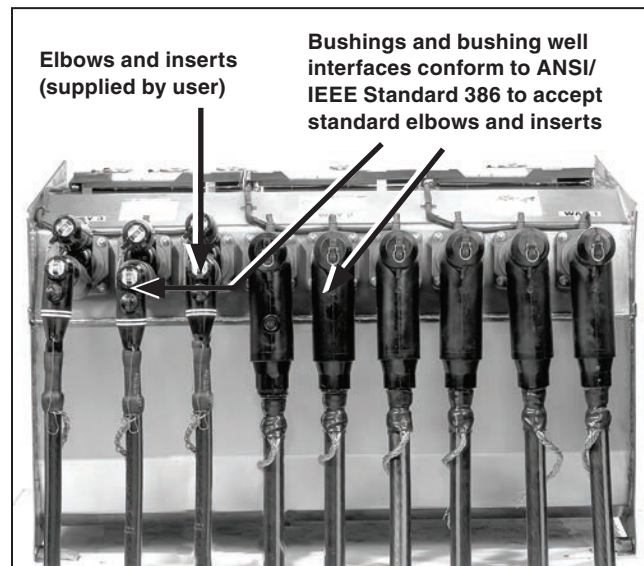

Figure 78. A Vista switchgear tank shown with user-supplied cables and elbows. (Manual unit shown for illustration purposes.)
STEP 2. Terminate the cables with elbows following the elbow manufacturer's instructions. See Figure 78.